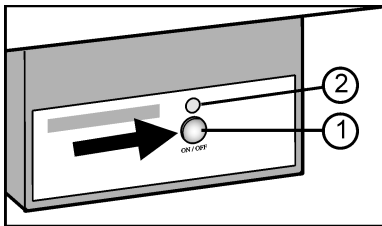

Fig. 6
- ▶ Press the On/Off button Fig. 6 (1) so that the LED Fig. 6 (2) shines.